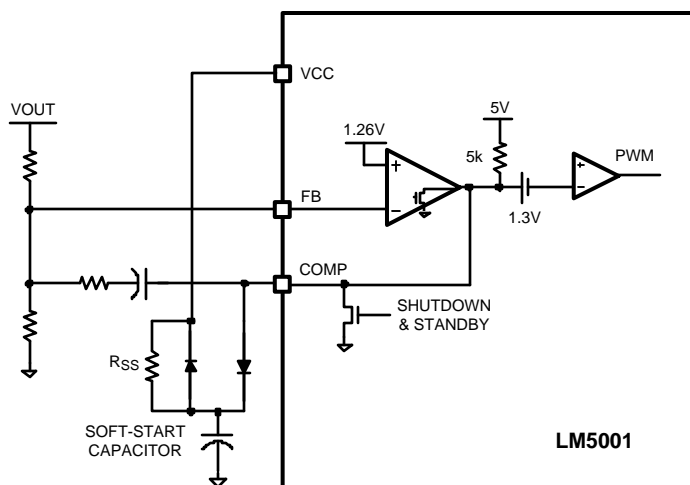

Figure 17. Soft-Start
Internal Thermal Shutdown circuitry is provided to protect the IC in the event the maximum junction temperature is exceeded. When the 165°C junction temperature threshold is reached, the regulator is forced into a low power standby state, disabling all functions except the VCC regulator. Thermal hysteresis allows the IC to cool down before it is re-enabled. Note that since the VCC regulator remains functional during this period, the soft-start circuit shown in Figure 17 should be augmented if soft-start from Thermal Shutdown state is required.
Soft-start (SS) can be implemented with an external capacitor connected to COMP through a diode as shown in Figure 17. The COMP discharge MOSFET conducts during Shutdown and Standby modes to keep the COMP voltage below the PWM offset (1.3 V), which inhibits PWM pulses. The error amplifier attempts to raise the COMP voltage after the EN pin exceeds the 1.26-V standby threshold. Because the error amplifier output can only sink current, the internal COMP pull-up resistor (~5 kΩ) supplies the charging current to the SS capacitor. The SS capacitor causes the COMP voltage to gradually increase, until the output voltage achieves regulation and FB assumes control of the COMP and the PWM duty cycle. The SS capacitor continues charging through a large resistance, R_{SS} , preventing the SS circuit from interfering with the normal error amplifier function. During shutdown, the VCC diode discharges the SS capacitor.